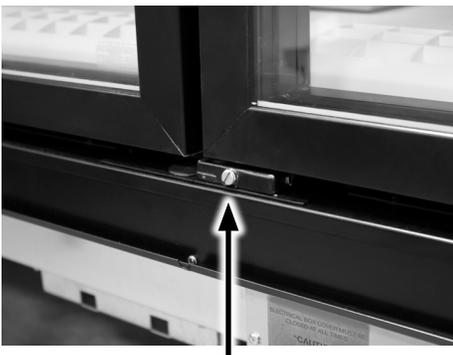

FIGURE 4: Door Tension Screw
2. Use a flathead screwdriver to turn the door tension screw (**FIGURE 4**). **Do not use power tools; a screwdriver allows for more control.**